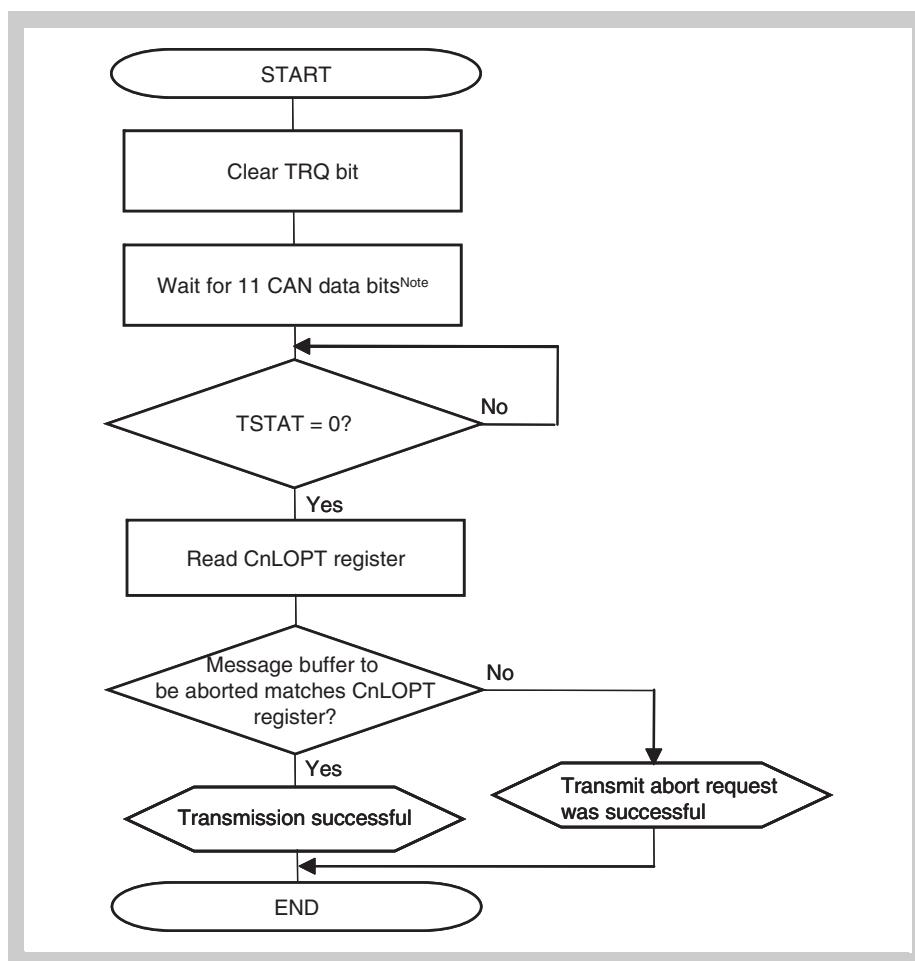
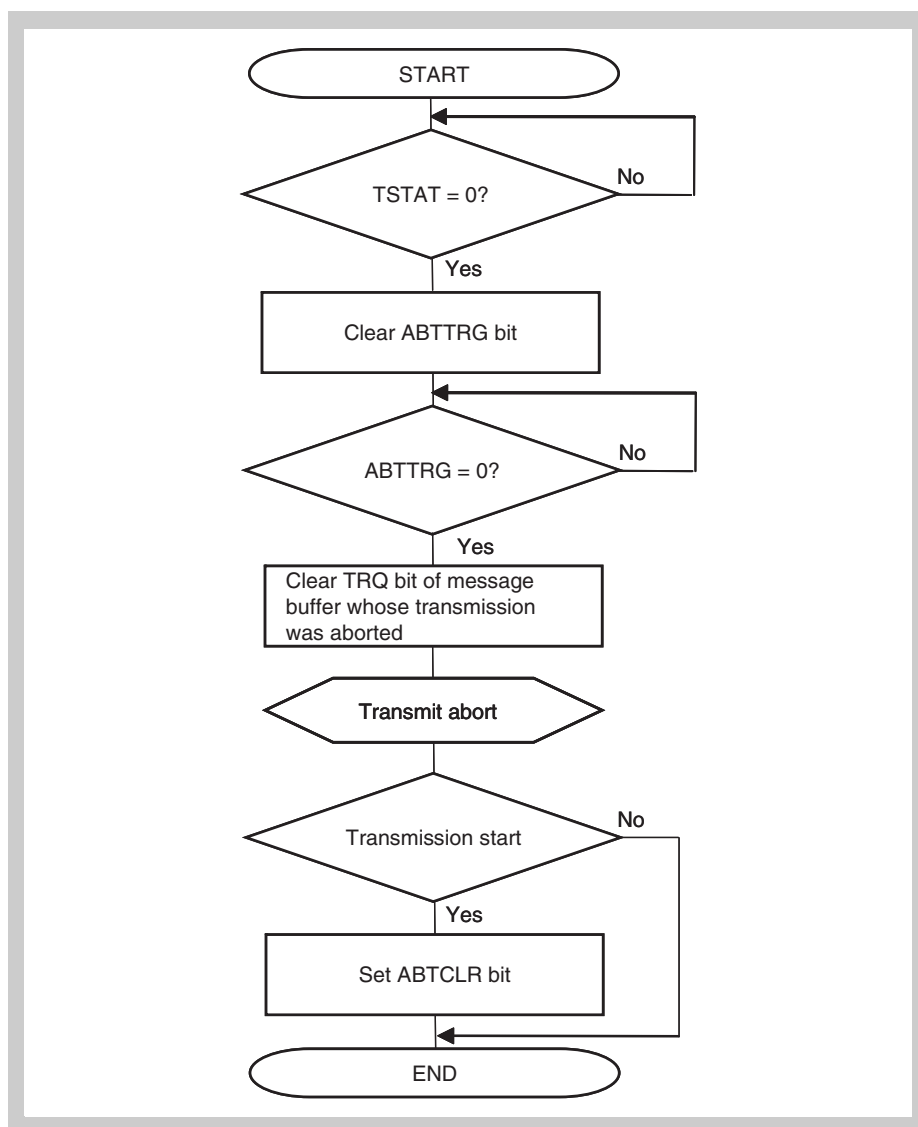
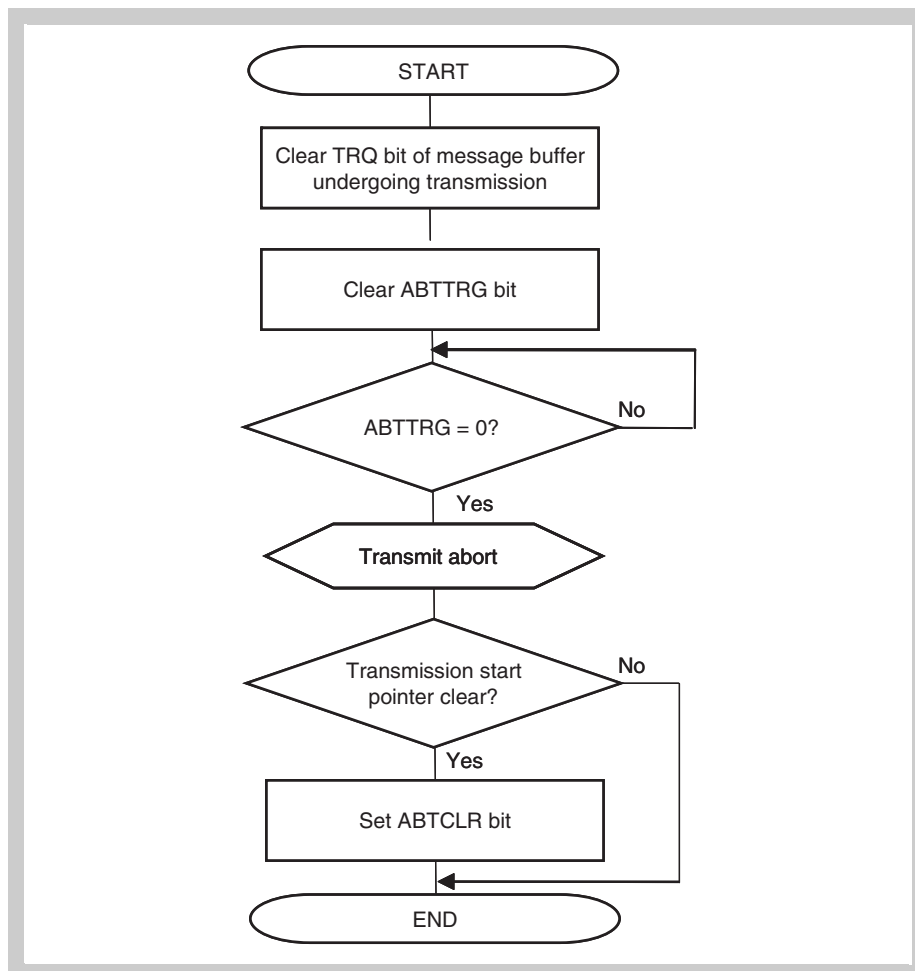

Figure 18-45 Transmission abort processing (except normal operation mode with ABT)
Figure 18-47 Transmission abort processing (normal operation mode with ABT)
Figure 18-48 ABT transmission request abort processing (normal operation mode with ABT)
Figure 18-47 shows the processing to skip resumption of transmitting a message that was stopped when transmission of an ABT message buffer was aborted.
2. Make a CAN sleep mode/CAN stop mode transition request after the ABTTRG bit is cleared (after ABT mode is aborted) following the procedure shown in *Figure 18-47* or *Figure 18-48*. When clearing a transmission request in an area other than the ABT area, follow the procedure shown in *Figure 18-45* on page 637.
Figure 18-48 shows the processing to not skip resumption of transmitting a message that was stopped when transmission of an ABT message buffer was aborted.
2. Make a CAN sleep mode/CAN stop mode request after the ABTTRG bit is cleared (after ABT mode is stopped) following the procedure shown in *Figure 18-47* or *Figure 18-48*. When clearing a transmission request in an area other than the ABT area, follow the procedure shown in *Figure 18-45* on page 637.
Caution To abort transmission before making a request for the CAN sleep mode, perform processing according to *Figure 18-45 on page 637* and *Figure 18-47 on page 639*.